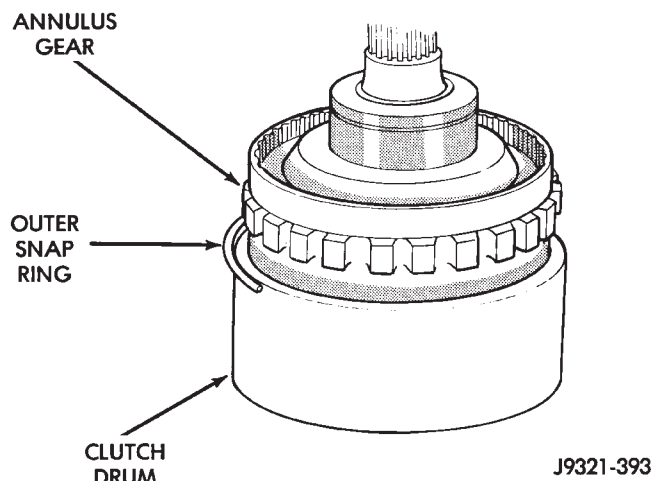

Fig. 222 Clutch Drum And Outer Retaining Ring Installation
(4) Align and install clutch drum on annulus gear (Fig. 222). Be sure drum is engaged in annulus gear lugs.
(5) Install clutch drum outer retaining ring (Fig. 222).